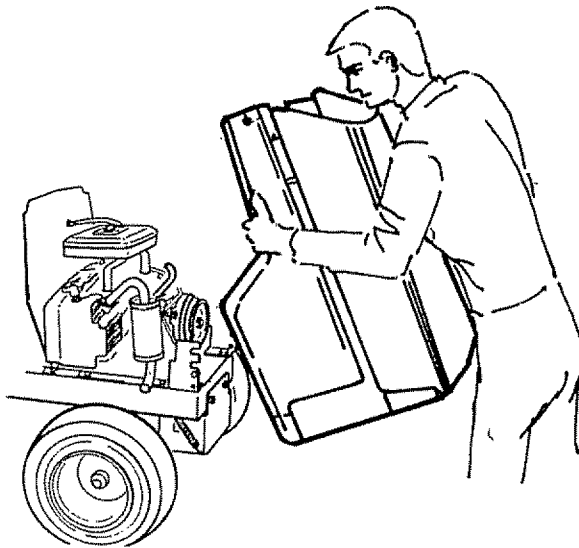

FIGURE 59
- Pivot Hood and Side Panel forward and lift off tractor (Fig. 59).